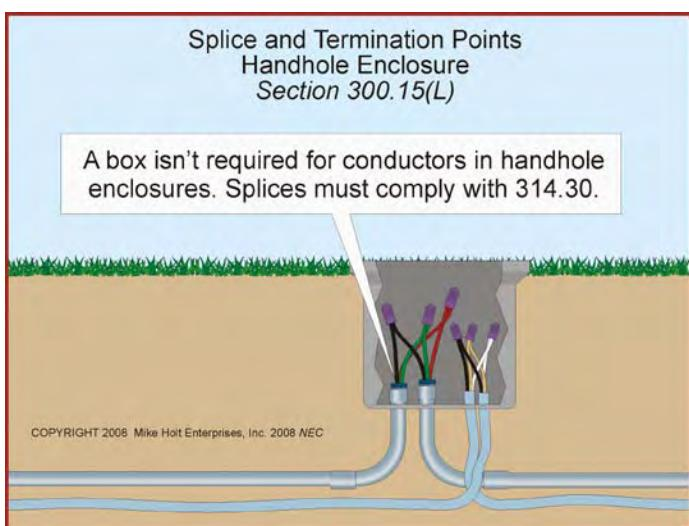

Figure 300-36
(L) Handhole Enclosures. A box or conduit body isn't required for conductors installed in a handhole enclosure. Splices must be made in accordance with 314.30. **Figure 300-36**